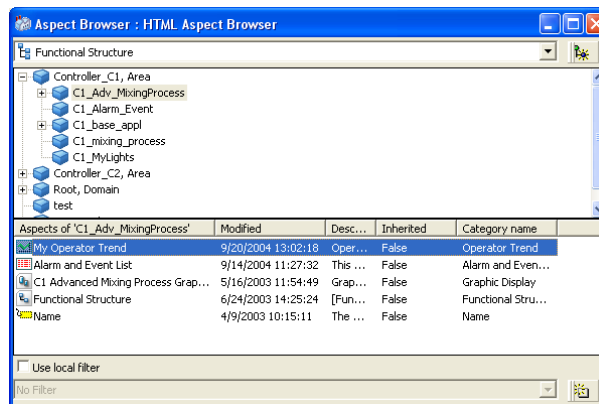
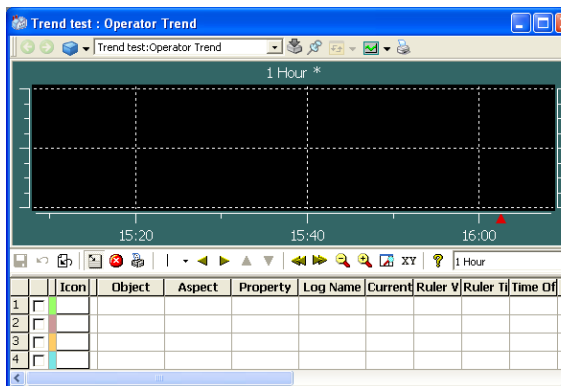

Figure 128. Operator Trend in the Aspect List
Figure 129. Operator Trend Display
4. Double-click on the new aspect in the aspect list to bring up the newly created Operator Trend Display, see Figure 128 and Figure 129.